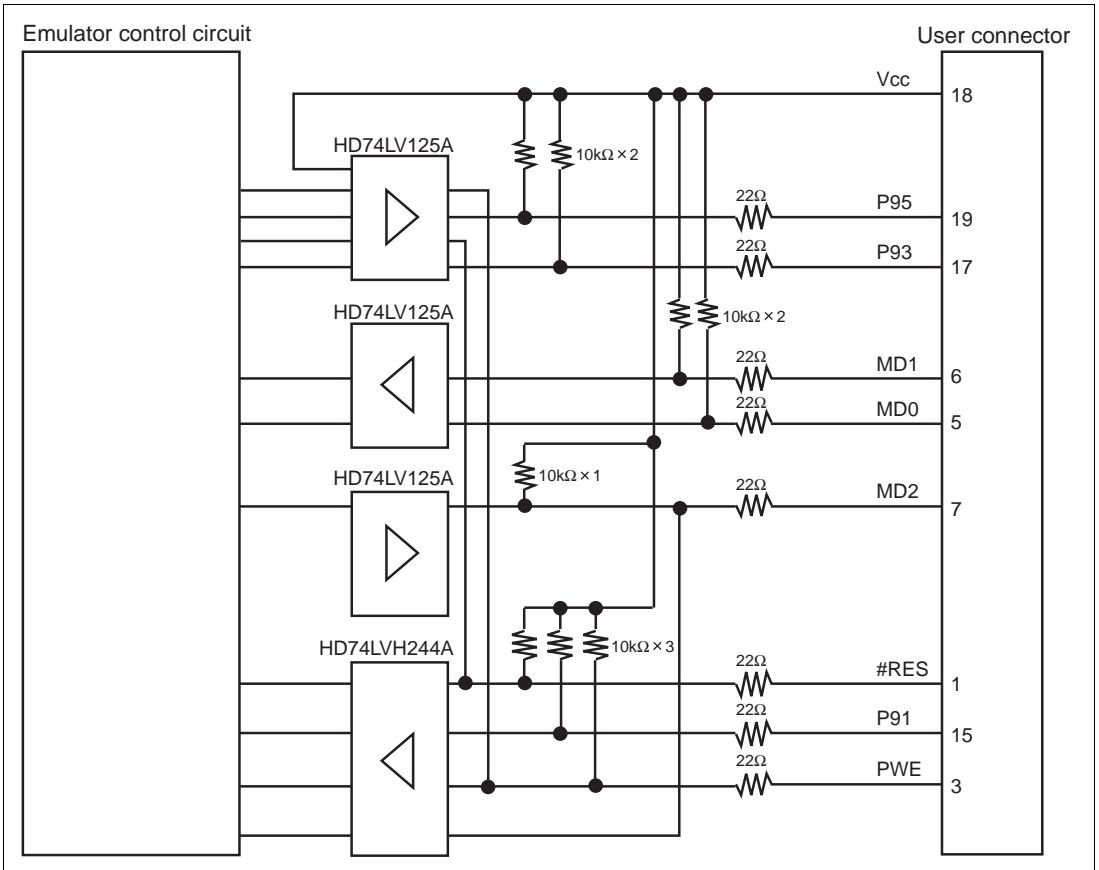

Figure 6.7 Interface Circuit in the Emulator (Reference)
8. Figure 6.7 shows the interface circuit in the emulator. Use this figure as a reference when determining the pull-up resistance value.